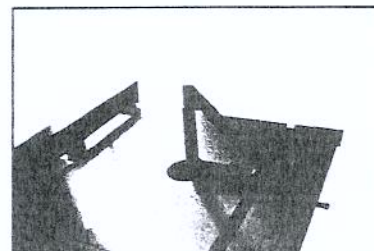

Fig. 6
- Use a protractor placed on the table and against the blade,(A, Fig.6) to see if the table is 90 degree to the table.